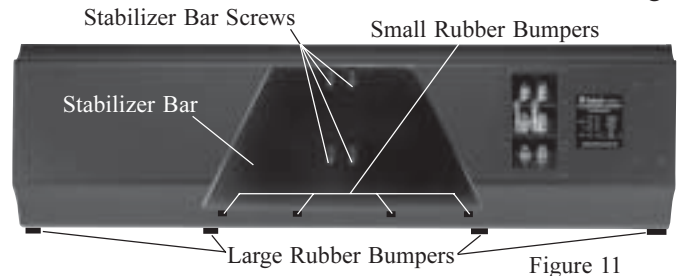

Figure 11
1. Attach the rubber bumpers to the bottom long edge of the XR27 Loudspeaker System and Stabilizer Bar. Refer to figure 11.
the Stabilizer Bar to the back of the XR27 Loudspeaker System. Refer to figure 11.